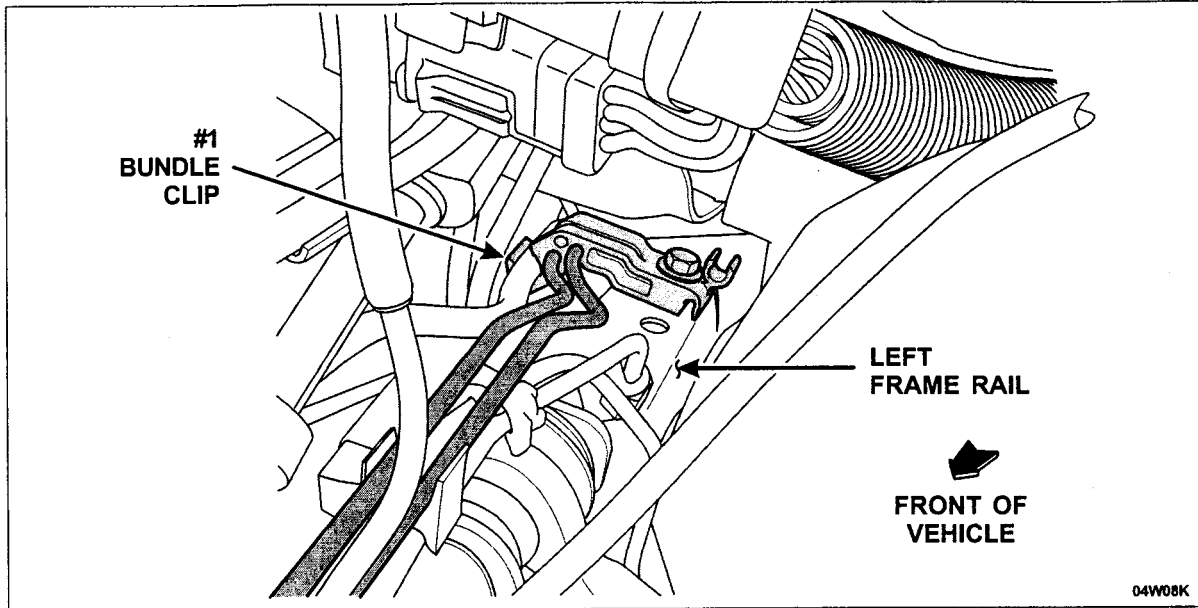

FIGURE 11
5. Remove the bolt for the #1 bundle clip (located on the frame rail in front of the dash panel below the brake booster). See Figure 11.